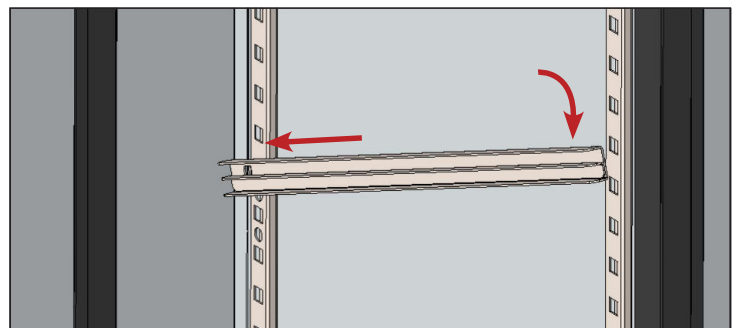

Fig. 2. Position the shelf/pan slide.
3. Slide the tabs into the notches and verify the unit is level. See fig. 2.